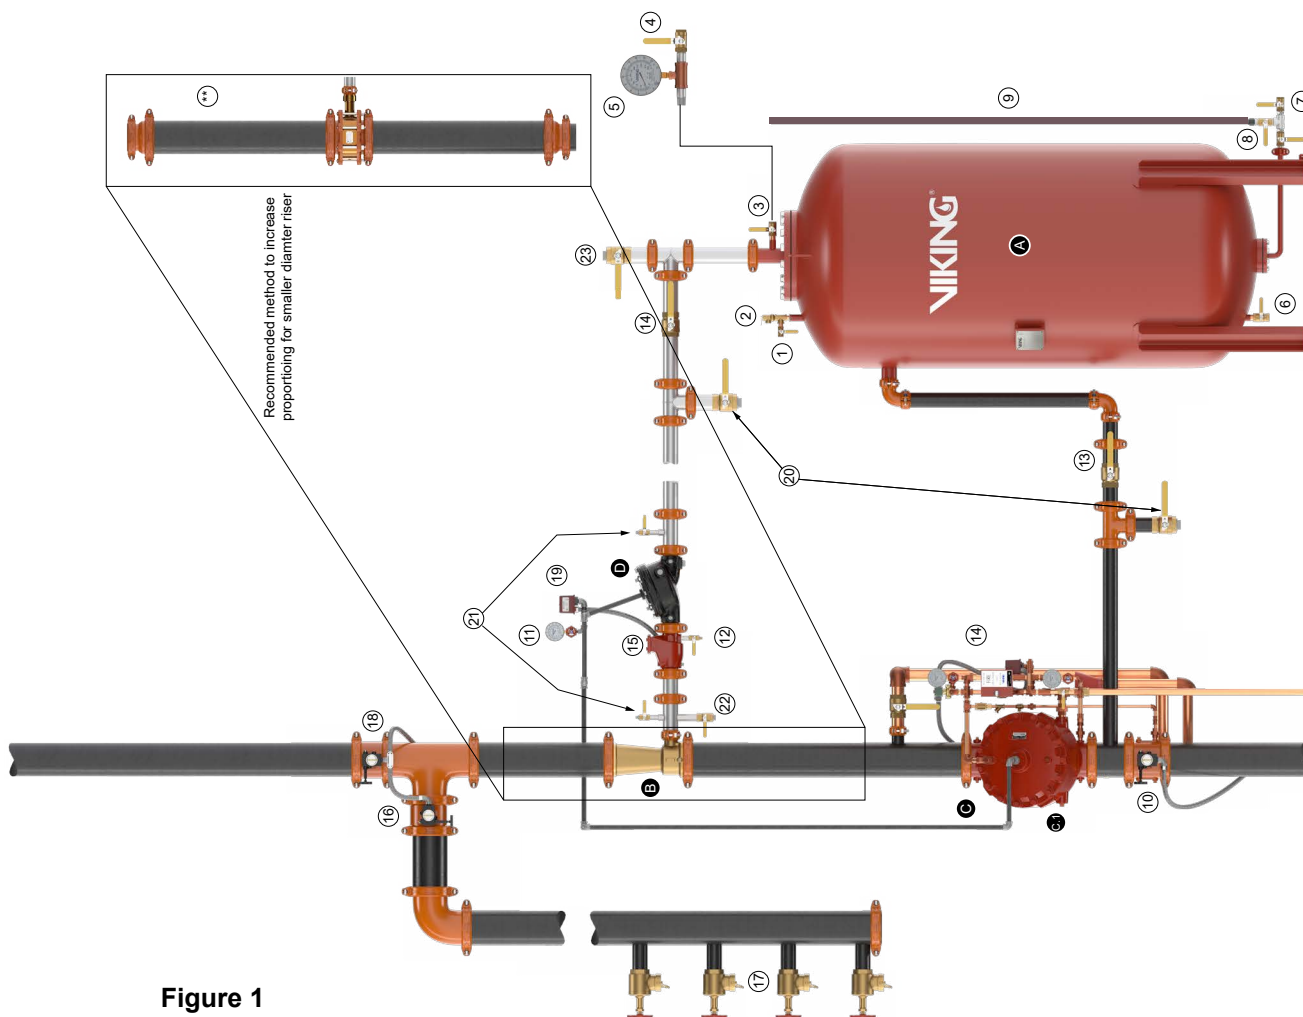

Figure 1
**In accordance with the bladder tank operation manual, ensure that CCV (D) is closed, shut-off valves (14) and (13) are opened slowly, and the bladder tank is vented of air.**
- n) Verify normal valve positions and secure in correct position (as detailed in Figure 1.)
- a) After a flow test or proportioning test has been conducted, the foam concentrate swing check valve (15) should be checked to ensure that it maintains a positive seal between the CCV (D) and the preaction system riser, by following the procedure outlined below.
- b) Bleed off any pressure which may have been trapped between the outlet of the chamber of the CCV (D) and the swing check valve (15) by placing a container under the foam concentrate auxiliary drain valve (12) and opening the valve slowly.
- c) Drain excess foam concentrate into container. Should the leakage continue, check the priming pressure gauge (11) on the CCV (D) to ensure that the valve is primed and closed.
- d) Flush the concentrate line downstream of the CCV (D)
- e) If the foam concentrate auxiliary drain valve (12) continues to leak foam concentrate, then the CCV (D) must be checked for proper operation and repaired if necessary. Follow the procedure in section D.1.d and refer to component data page for repair instructions.
- f) Should water continue to leak from the foam concentrate auxiliary drain valve (12), the foam concentrate swing check valve (15) clapper rubber and seat should be inspected or replaced. Refer to component data page for repair instructions.
- B. The combined total equivalent length of pipe (pipe length, plus equivalent lengths for fittings and valves) including both the water supply inlet piping (13) and the foam concentrate discharge piping (14), should not exceed 165 equivalent feet (50.3 meters); specifically, 100' (30.5 m) water supply and 65' (19.8 m) foam concentrate piping.
- C. The CCV (D) and swing check valve (15) must be connected adjacent to the ratio controller using pipe nipples as short as possible.
- D. Figure 1 is a general schematic of the required piping arrangement. Refer to the appropriate technical data page for specific information regarding the valve, tank, and related trim and devices.
- F. The CCV (D) does not require any trim, except for a ½" priming line and water pressure gauge and 3-way valve (11) from the main deluge valve (C) to the priming chamber of valve (D). Plug all the remaining valve trim outlets. Connect the CCV (D) priming line to deluge valve (C) as shown on Figure 1. Refer to the Valves section of the website to find the correct trim kit part number for the corresponding size of CCV (D) required.